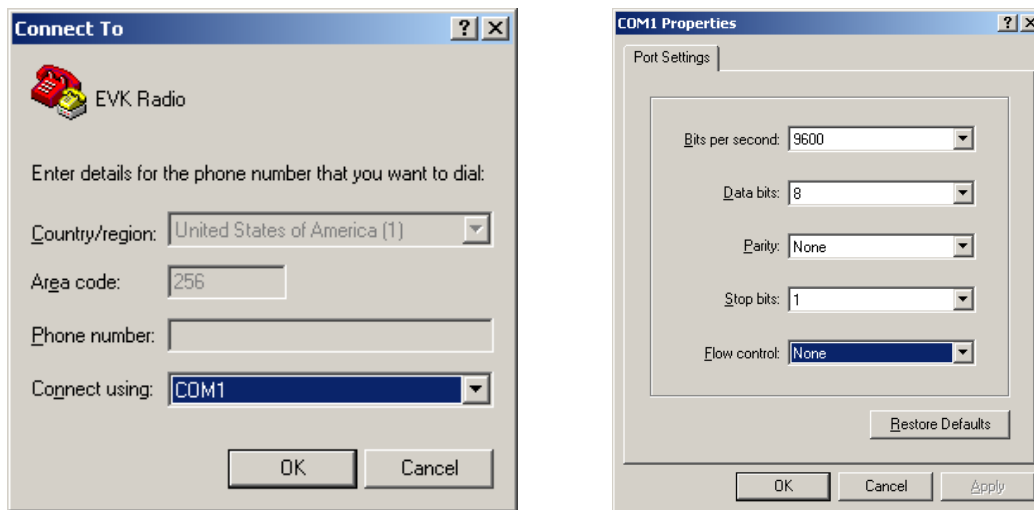

Fig. 7: Designating the connection port (left) and specifying its settings (right).
- Using the screens shown in Fig. 7, select the correct COM port for your computer in the **Connect Using** drop down. In the **COM1 Properties** screen, set **Bits per second** to 9600, **Flow control** to "None", and click **OK**.